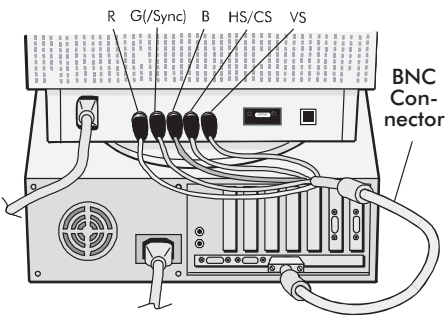

Figure C.1
3. Connect the BNC cable to the appropriate connectors on the back of the monitor. Connect the red BNC cable to the BNC connector on the monitor labeled R, the green BNC cable to the BNC connector on the monitor labeled G(/Sync), the blue BNC cable to the BNC connector on the monitor labeled B. If you have a fourth BNC connector (Composite Sync), connect it to the BNC connector on the monitor labeled HS/CS. If you have a fifth BNC connector (Vertical Sync), connect it to the BNC connector on the monitor labeled VS (Figure C.1).